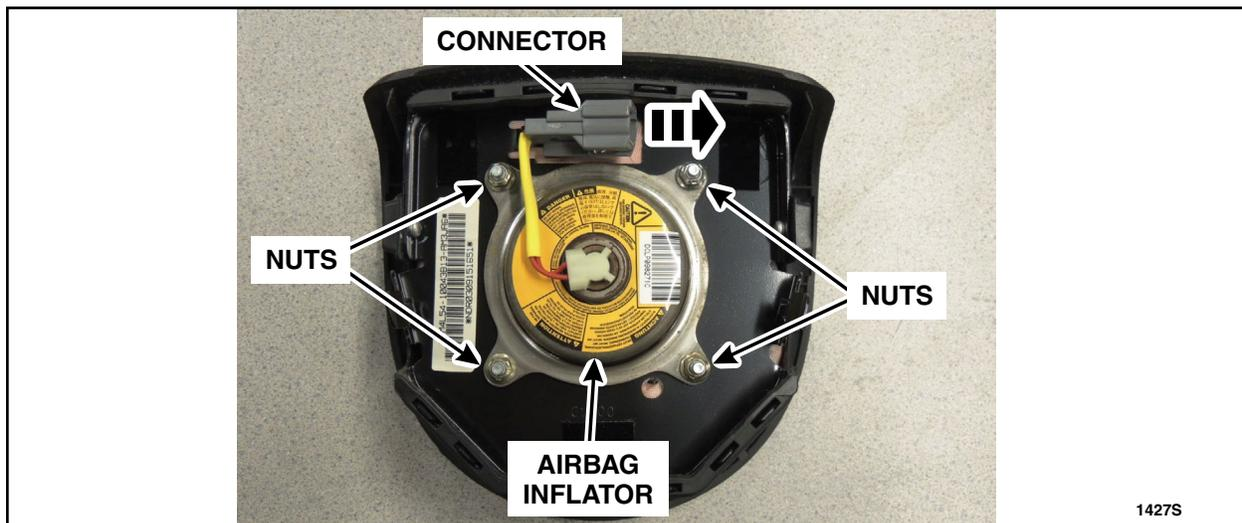

FIGURE 1
3. Release the retaining tab and slide the airbag inflator connector off the tang. See Figure 1.
4. Remove and discard the four airbag inflator retaining nuts from the driver side airbag. See Figure 1.
Remove the airbag inflator and set aside for return shipping. See Figure 1.
7. **NOTE:** The *new* airbag inflator must be installed in the same orientation as the original part to ensure the inflator module and airbag harness electrical connector T-shape indexes are aligned properly. See Figures 1 and 3.
Install the *new* inflator into the driver airbag. See Figure 1.
9. Install four *new* airbag inflator nuts onto the driver airbag. See Figure 1.
10. Slide the airbag inflator connector onto the tang. See Figure 1.